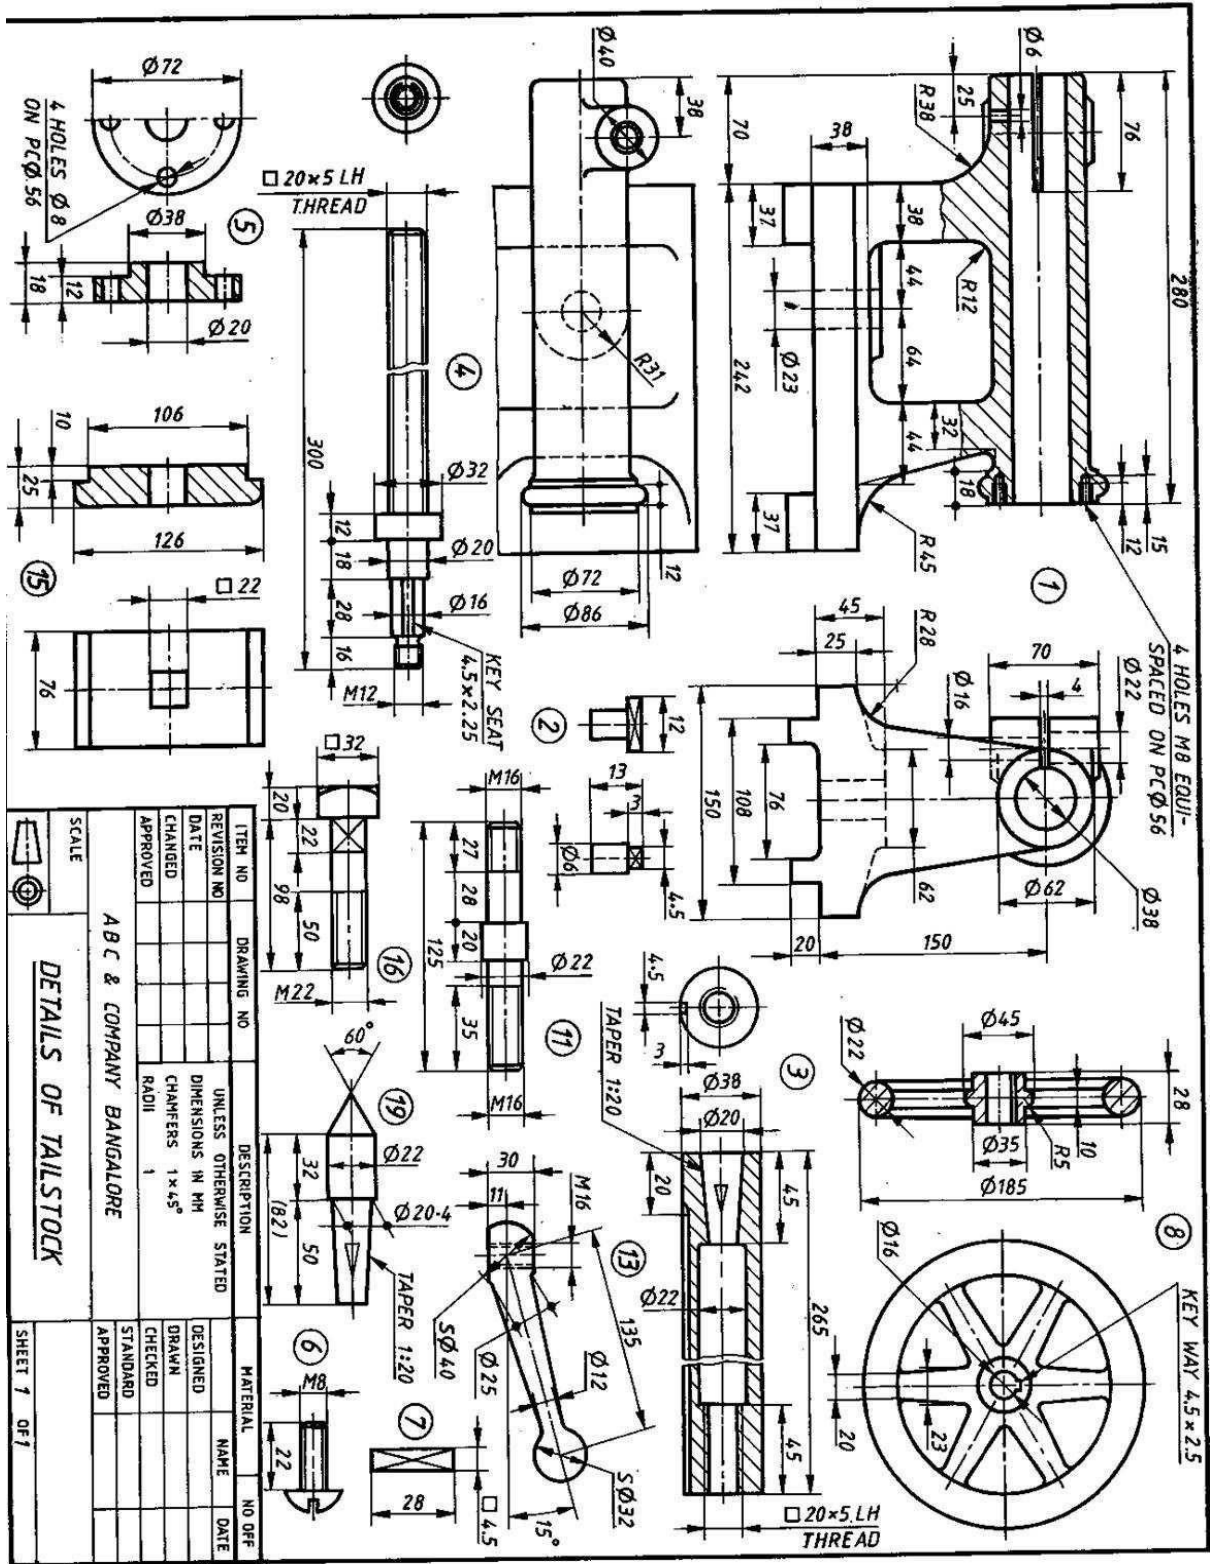

Figure 1 'TAIL STOCK'
5. Figure 1 shows the details of 'TAIL STOCK'. Assemble the parts and draw the following views of the assembly.